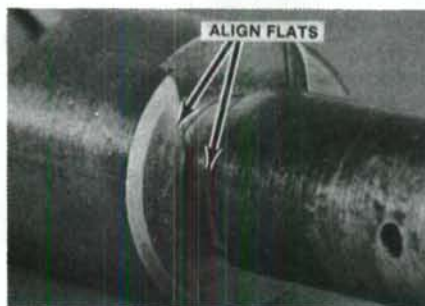

Fig. 260—View of flow control adjusting shaft showing proper alignment of flats on shafts. Refer to text.
Install "O" ring and Teflon seal on flow adjusting shaft (27) with Teflon seal toward top of shaft. Lubricate rings with petroleum jelly and install shaft with screw hole end into threaded end of housing (25). Align roll pin hole of shaft with center of top slot in housing. Install pin (28) until it bottoms. Shaft must turn freely from stop to stop without pin hitting side wall of housing. Remove pin if it hits side, rotate shaft one turn and reinstall and center pin. Turn shaft counterclockwise until pin hits housing, install flow control tube (31) in housing, flat groove end first, and align groove with matched flats of adjusting shaft. See Fig. 260.